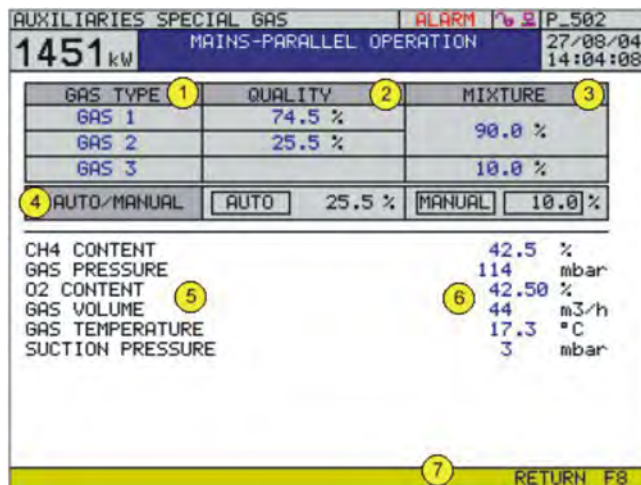

Figure 4: Auxiliary equipment special gas screen with data concerning mixed gas operation and gas quality information
For the gas types 1-2/3 and 1/3 a "Mixture ratio automatic / manual" selection button is available (see Figure 4: Auxiliary equipment special gas screen with data concerning mixed gas operation and gas quality information ❹). This button can be accessed as from the "Advanced customer" authorisation level (15) and higher